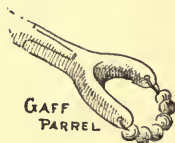
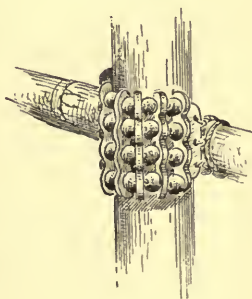

FIG. 1.
FIG. 2.
**Parrel.**—Generally speaking, any apparatus which keeps a yard to its mast. Thus the parrel of a *gaff* is a rope upon which is strung a row of hard wooden balls and encircling the mast, the ends being attached to each jaw of the gaff. (See fig. 1, also under GAFF.) The parrel of a lug sail may be either an iron ring on the mast or a loop made in the halyard. (See LUG.) The *rib-and-truck* parrel was a device often used in old ships, and may still be occasionally seen. It consisted of a number of battens or ribs, between each of which a series of trucks (small wooden balls) were strung (see fig. 2.). The lines being unreeved, these parts would fall into a number of disjointed pieces. Hence the term “ribs and trucks” is sometimes used to mean mere fragments.